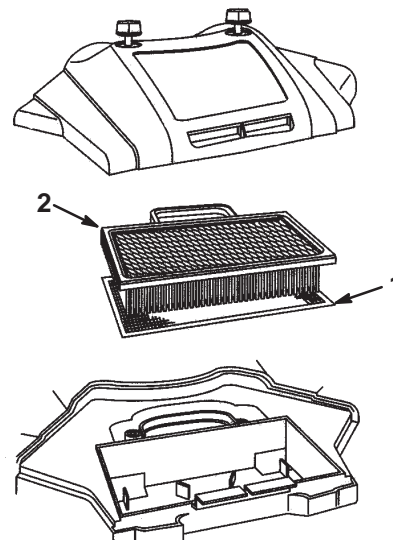

Figure 34
4. Lift out the paper cartridge and the foam element (Fig. 34).
1. Foam Element (Fig. 34):
2. Paper Element (Fig. 34):
3. Install the air cleaner cover and knobs (Fig. 34). Tighten the knobs snugly.